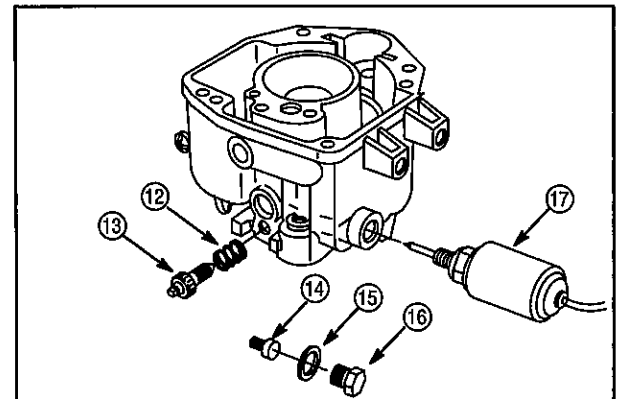

Fig. 89
11. Install fixed main jet (14) using Screwdriver #19062, **Fig. 89**.
12. Install washer (15) and plug (16) or anti-afterfire solenoid (17). Torque to 45 in. lbs. (5 Nm).
13. Install idle mixture screw (13) and spring (12).